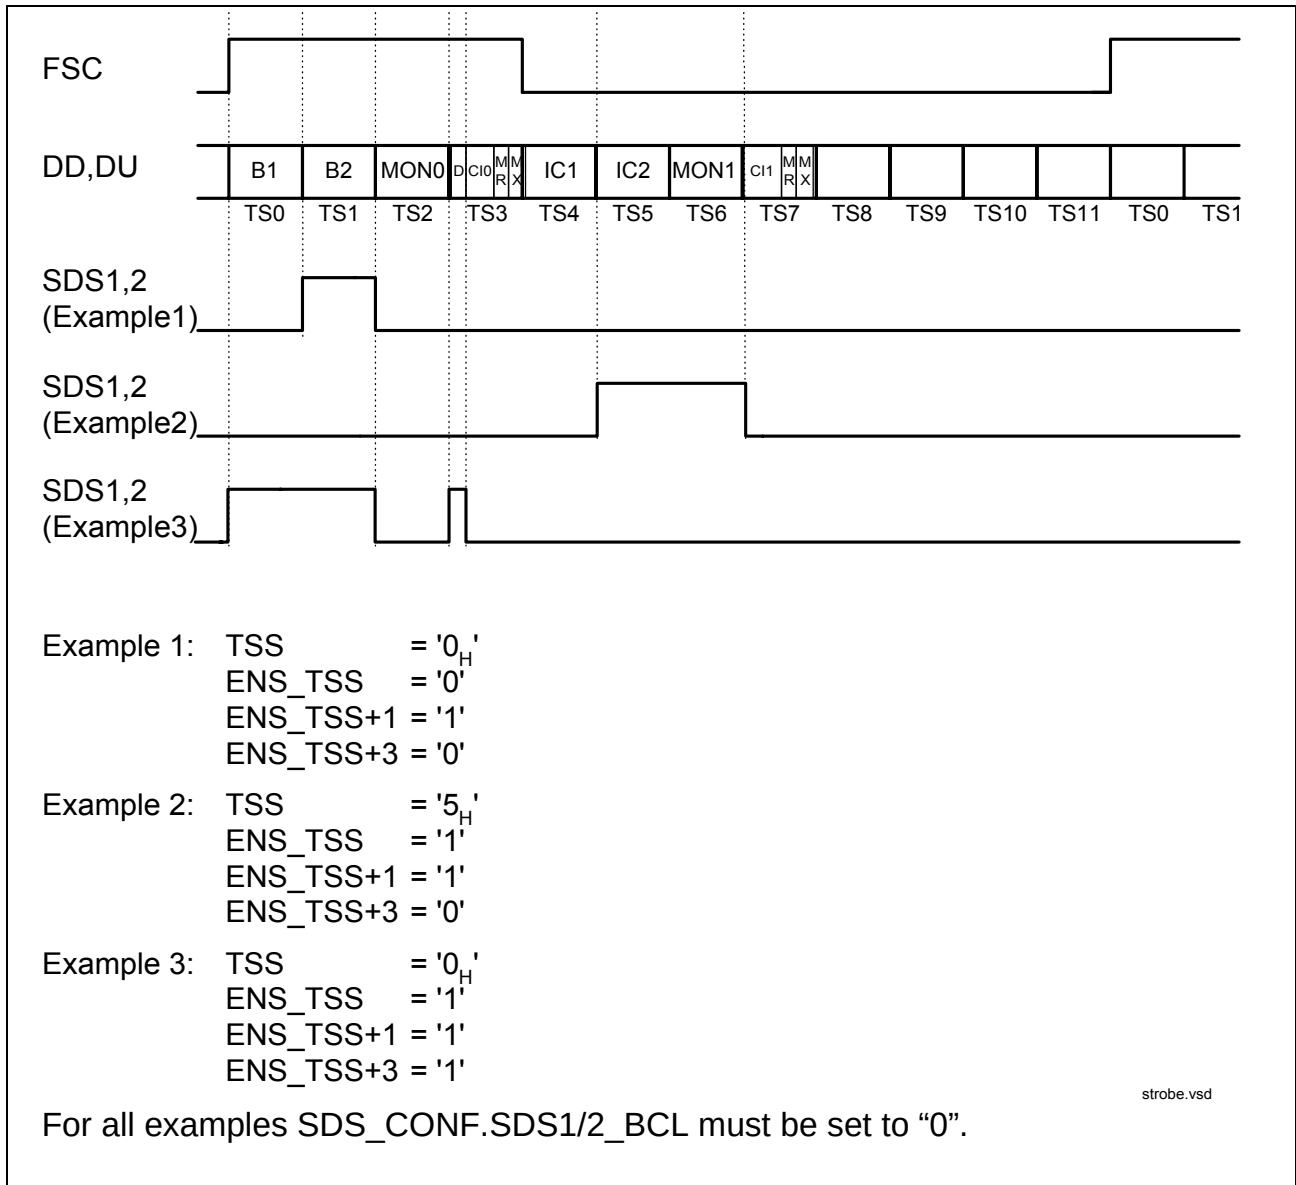

**Figure 56 Data Strobe Signal**
**Figure 56** shows three examples for the generation of a strobe signal. In example 1 the SDS is active during channel B2 on IOM-2 whereas in the second example during IC2 and MON1. The third example shows a strobe signal for 2B+D channels which can be used e.g. for an IDSL (144kbit/s) transmission.